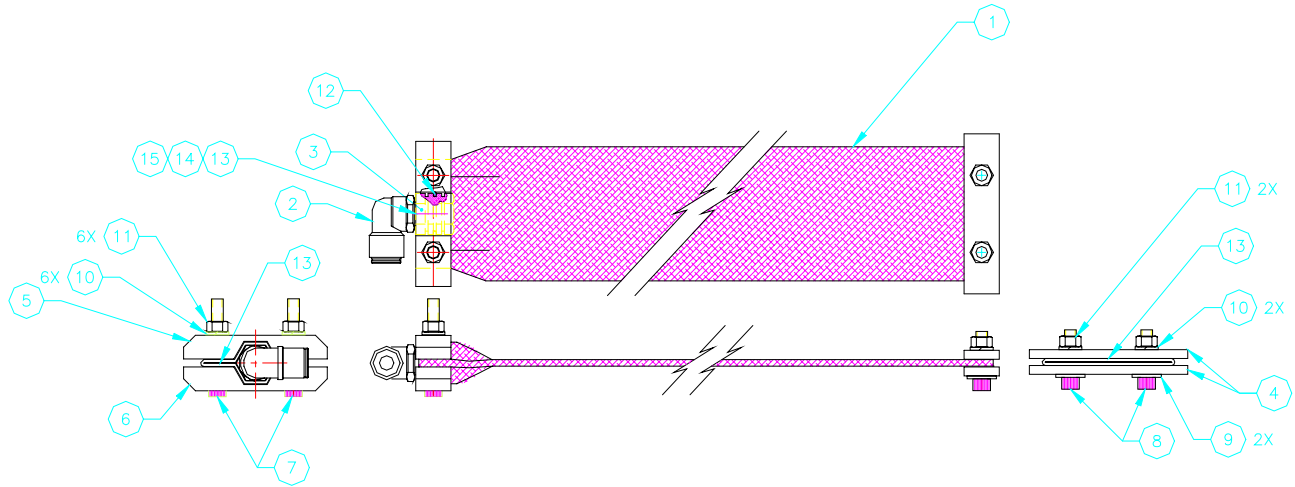

Figure 6: Air Bag
12.0 AIR BAG REPLACEMENT (See Figure 6 for replacement parts)